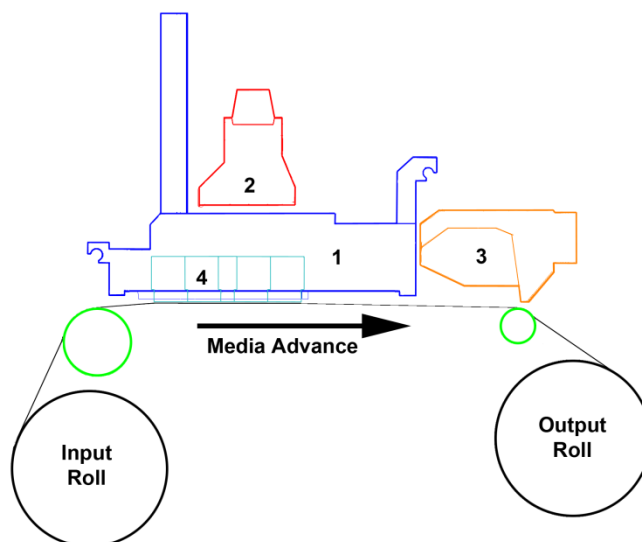

Figure 2. Schematic of the HP L65500 printer carriage and dryer.
Since the ink does not absorb into vinyl and other traditional outdoor media designed for solvent inks, high-speed printing requires that the ink be partially dried as it is laid down, otherwise the ink droplets tend to coalesce and flow, leading to inter-color bleed and area fill uniformity issues. The HP L65500 printer is a 104" scanning system where the printhead moves orthogonally to the media advance. Figure 2 shows a schematic of the printer. Three HP Widescan printhead modules (4) containing 31,680 nozzles are mounted on a carriage (1). As the carriage scans and prints across the swath, radiant heat (2) and airflow (originating from the curing module) are applied to the freshly printed image in order to "pin" the ink and control image quality. The printheads are staggered relative to each other to maximize the print zone drying time between carriage passes. The printed image then advances through the curing module (3), where additional radiant heat and fresh airflow complete the drying and cure the ink. After passing through the curing module, the ink is completely dry and ready for use. To move the wide media rolls, the motorized input and output rollers are controlled with a new Optical Media Advance Sensor (OMAS). The OMAS can detect and correct for media advance variability for banding-free output.